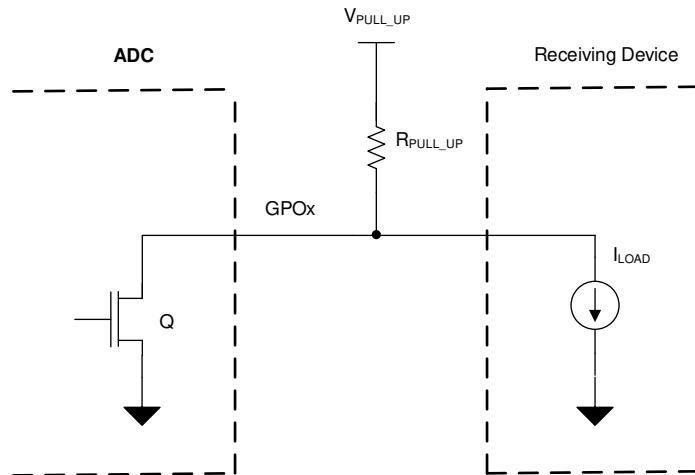

Figure 48. Digital Open-Drain Output
The channels of the TLA2528 can be configured as digital open-drain outputs supporting an output voltage up to 5.5 V. An open-drain output, as shown in Figure 48, consists of an internal FET (Q) connected to ground. The output is idle when not driven by the device, which means Q is off and the pull-up resistor, R_{PULL_UP} , connects the GPO_x node to the desired output voltage. The output voltage can range anywhere up to 5.5 V, depending on the external voltage that the GPO_x is pulled up to. When the device is driving the output, Q turns on, thus connecting the pull-up resistor to ground and bringing the node voltage at GPO_x low.